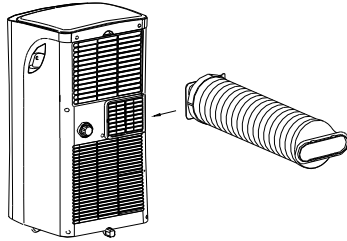

Fig. 18
2. Push the Exhaust hose into the air outlet opening along the the arrow direction(See Fig. 18).